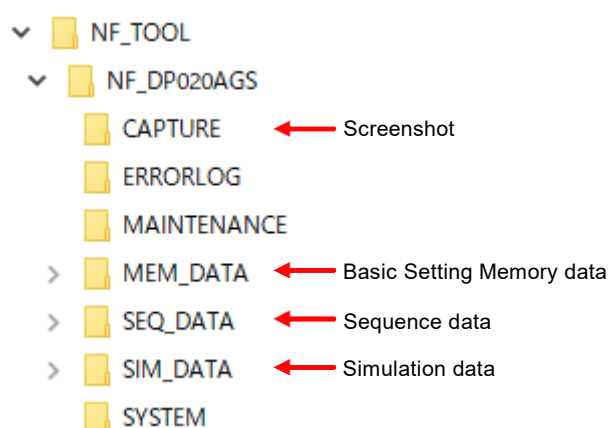

Figure 4-23 USB Memory Folder Structure
The root folder of the USB memory should have folders as shown in *Figure 4-23*. Otherwise, these folders are created automatically when the USB memory is connected to this product.
- The ERRORLOG, MAINTENANCE, and SYSTEM folders in **Figure 4-23** are not used by the users. Do not delete these folders and files in them, as they are used for firmware updating of this product and other purposes.